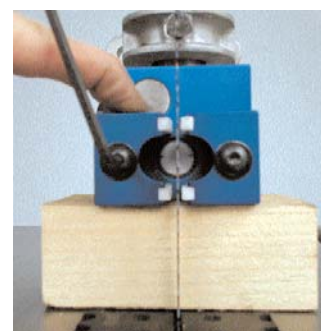

Fig. 9
10. Loosen the side guides. Push them down on to the wood block and tighten. This will ensure that the side guide blocks are square to the table. See Fig. 9.